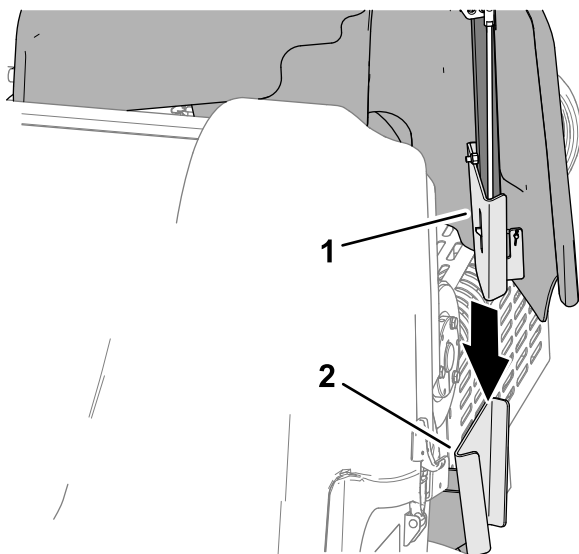

**Figure 133**
1. Align the mount bracket of the belt cover with the cover-support bracket of the machine frame (Figure 133).